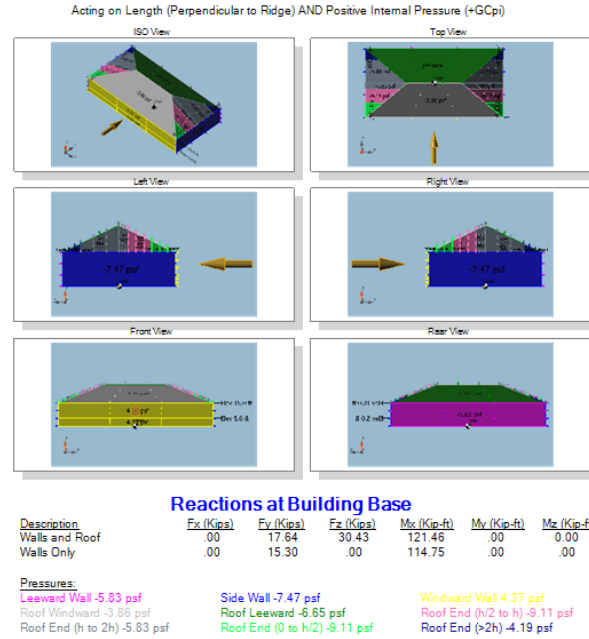

Figure 4 – MWFRS Graphic Report
You may then make a one (1) page report of this MWFRS Graphic with the click of a button, as shown in figure 4.